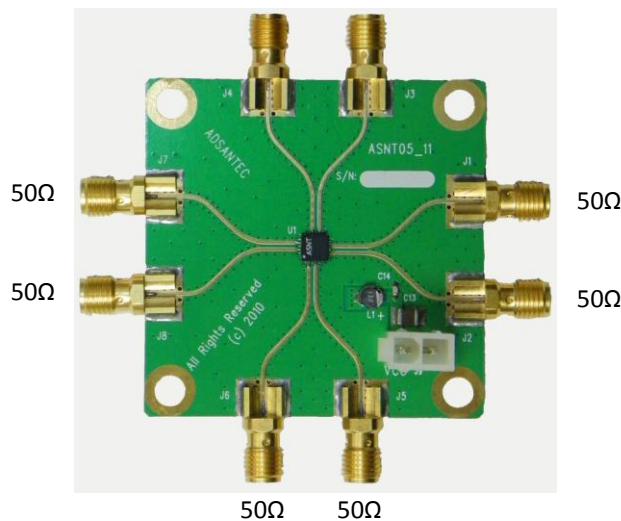

Fig. 5. Impedance of I/O Connectors
11. Measure the resistance of all connector pins to VCC, including the power supply, while making sure the board is grounded. All I/O ports should measure 50Ohms while on the power supply connector, VCC should be a short, and GND should be high impedance. Fig. 5 shows the resistance values of the described I/O connectors.